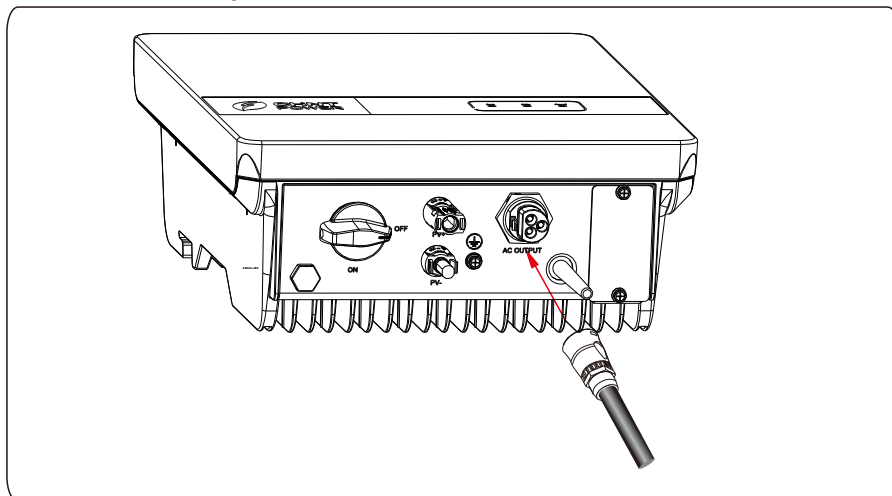

Figure 5.7 Connecting AC Connector
Step 3 After AC wiring, route the AC connector into the AC terminal of the inverter and double check it, as shown in Figure 5.7.